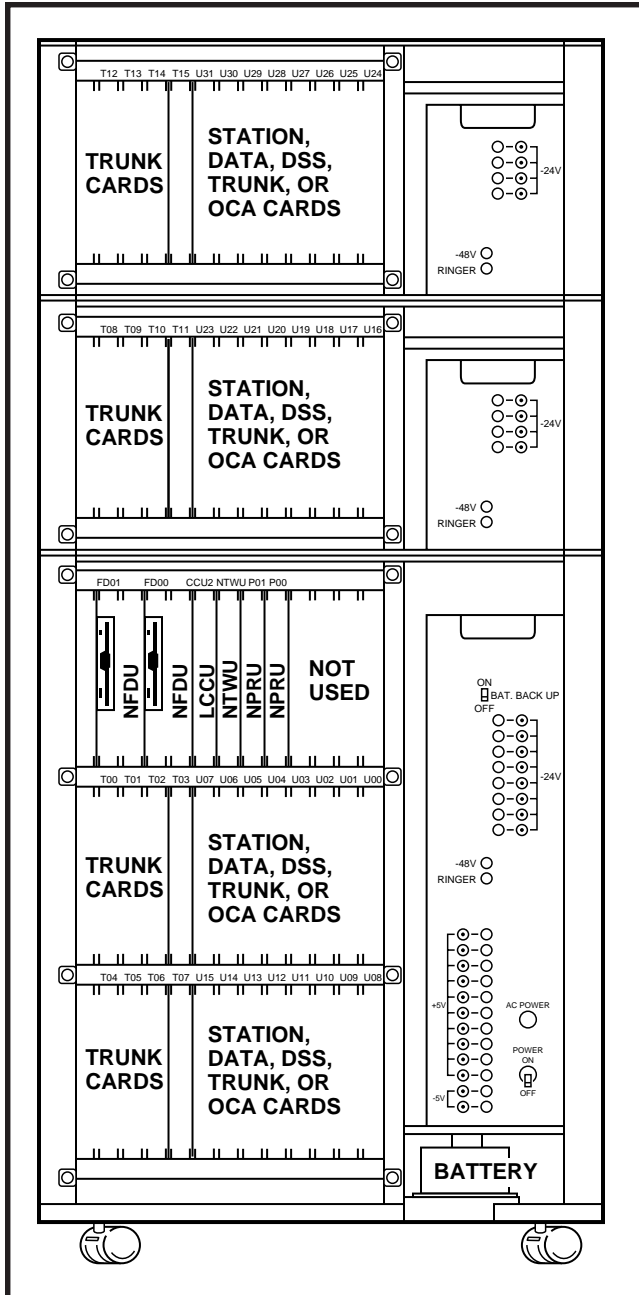

**FIGURE 2-7—PERCEPTIONe PCB INSTALLATION**
**6.00** Sixteen different types of PCBs are available for use in both PERCEPTION systems (Figures 2-7 & 2-8). The universal port architecture enables multiple installation of trunk cards. The PERCEPTIONe can support a maximum of 16 trunk cards; 8 in the basic cabinet, and 8 in the expansion cabinet. The PERCEPTIONex can support a maximum of 32 trunk cards; 24 in the basic cabinet, and 8 in each expansion cabinet.